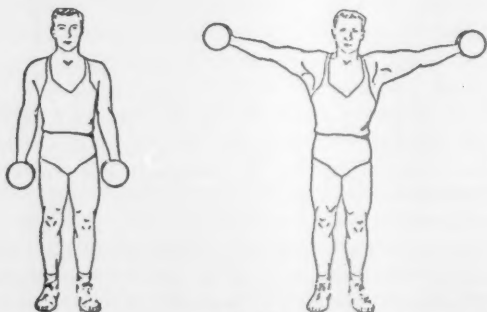

Fig. 10.
• **Lateral Arm Raise** (shoulders) (Fig. 10). Hold a dumbbell in each hand with palms facing each other and arms hanging at sides. Raise your arms out and to the side until they are above shoulder level. Now, return to the starting position. Keep your arms extended and locked at the elbows.